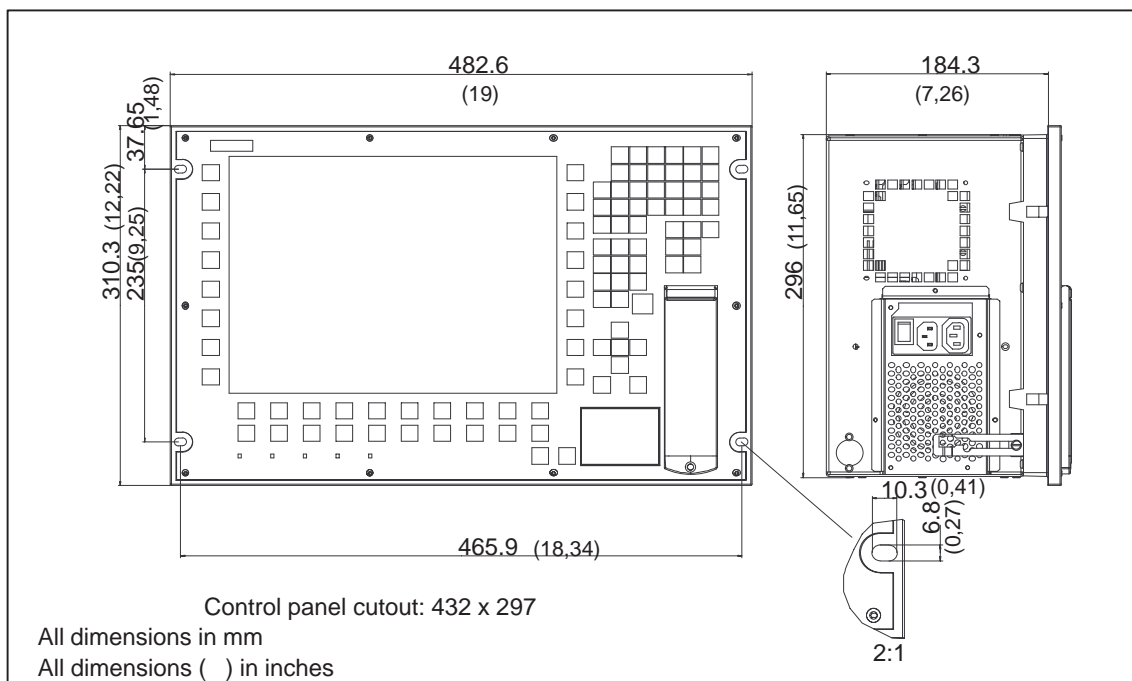

Figure 2-3 Installing the FI45
- Place the device in the prepared panel cutout (see Figure 2-3) and protect it against falling out until it can be permanently secured.